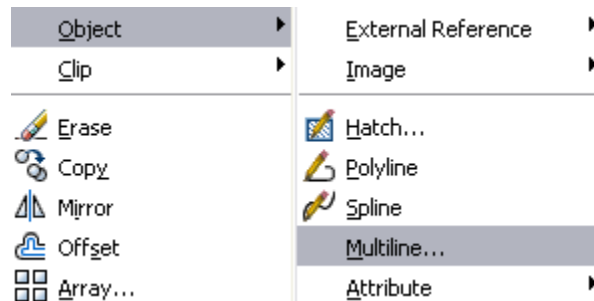

Figure 9
7. From the “Modify” pul;_down menu, Object, select the multiline. Fig 9.